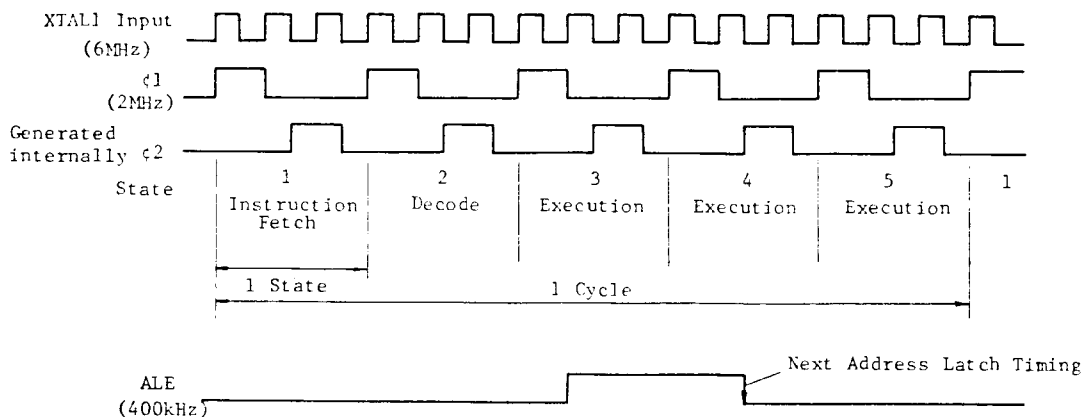

Fig.4 Instruction Cycle Timing
(1) Instruction Cycle
- . Fig.4 illustrates its relationship with the clock input to CPU.
- . $\phi 2$ clock shown in Fig.4 is derived to outside by ENTO CLK instruction.
(2) External Memory Access Timing